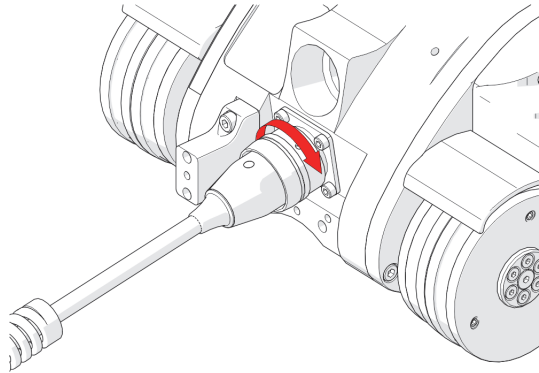

Figure 2-12 Align with crawler's umbilical mount
2. Twist the umbilical's sleeve clockwise, locking the umbilical in place. (see Figure 2-12 on page 55).